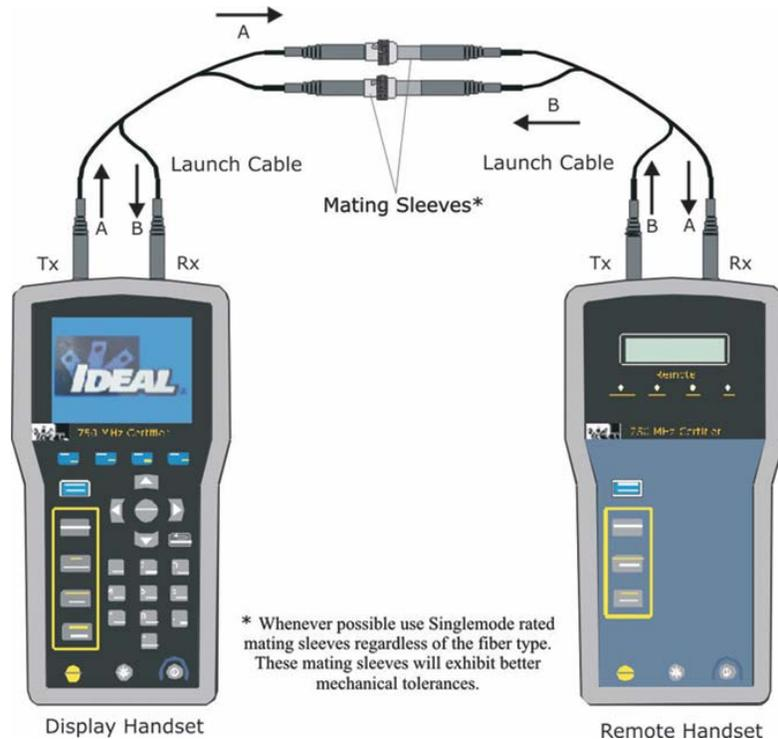

Figure 5-2: Preferred Setup for Field Calibration
1. Connect the Display and Remote handsets as indicated in Figure 5-2. Make certain that the patch cords connected are compatible with the fiber type under test (i.e. 50 μ m vs. 62.5 μ m).